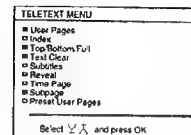

Fig. 42
- Press MENU. The menu will be superimposed on the teletext display. (See Fig. 42).